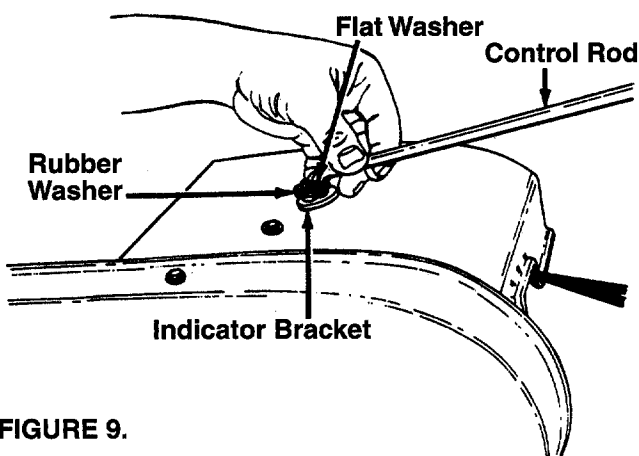

FIGURE 9.
3. Place flat washer, then rubber washer on the hooked end of control rod. Insert end of control rod into the indicator bracket on top of the shift cover, and secure with hairpin clip. See figure 9.